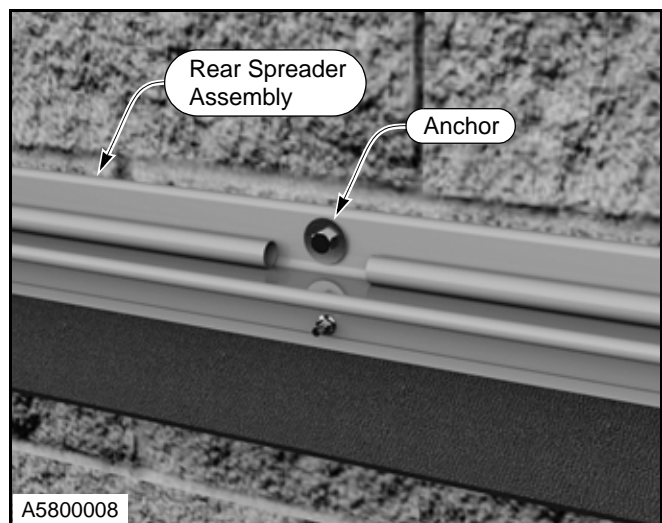

Figure 15
8. Install anchor into rear spreader assembly. (See Figure 15.)